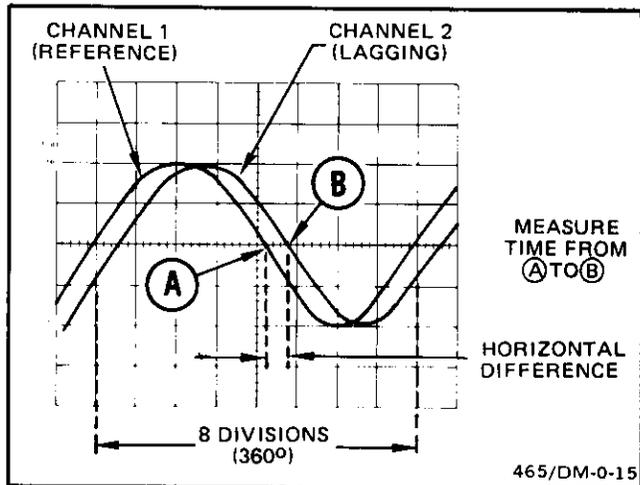
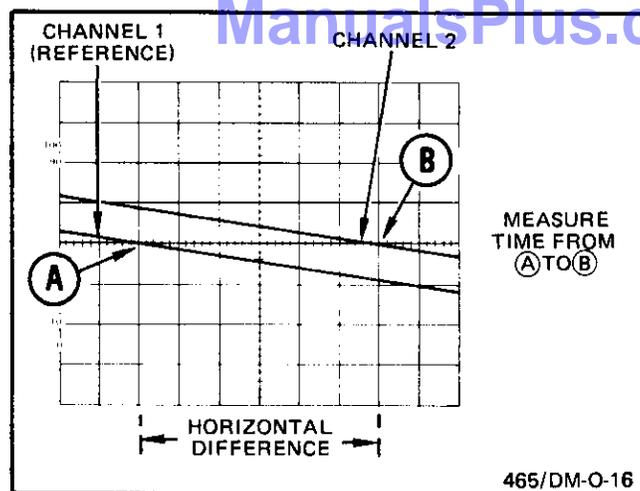

Figure 20. Phase difference.
Figure 21. High-resolution phase difference.
9. Position the displays and adjust the TIME (PULL) VAR control so that one reference-signal cycle occupies exactly 8 horizontal graticule divisions at the 50% rise-time points (see Figure 20). Each division of the graticule now represents 45° of the cycle ($360^\circ \div 8$ divisions), and the horizontal graticule calibration can be stated as 45° per division.
EXAMPLE: The horizontal difference is 0.6 division with a graticule calibration of 45° per division as shown in Figure 20.
Figure 21 shows the same signals illustrated in Figure 20, but magnifying the displays results in a horizontal difference of 6 divisions between the two signals.